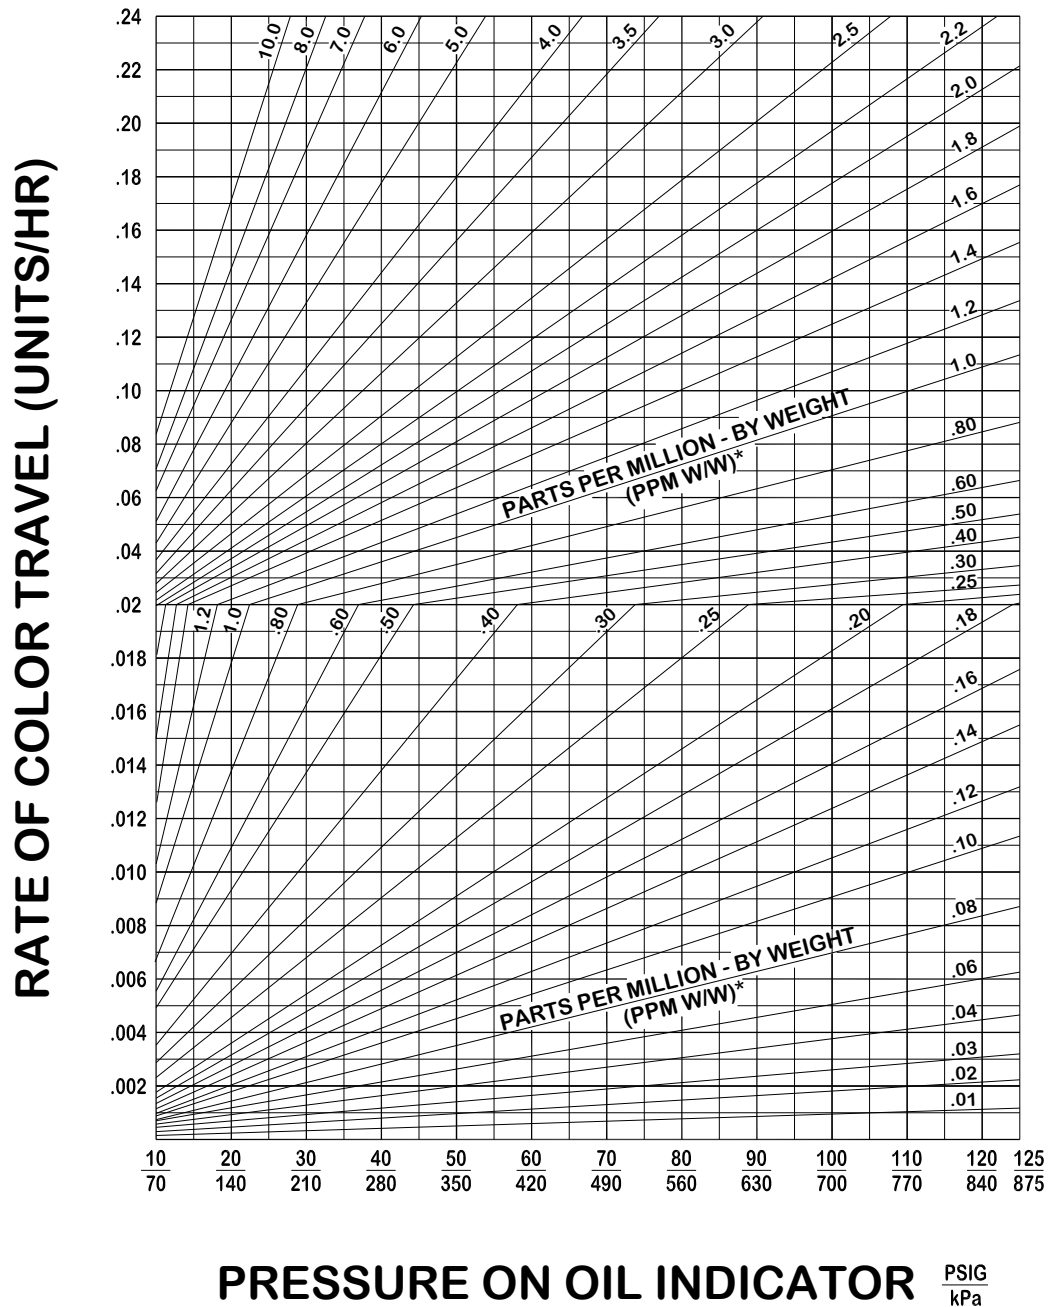

Fig. G-2. Conversion Chart for Oil Indication
When the needle valve of the oil indicator is open, filtered medical air will flow through the calibrated plastic tube. Any oil present in the air will then carry a red oil soluble dye up the tube, coloring a white material in the tube. The rate of color travel will be proportional to the amount of oil present. The parts per million (ppm) value of oil entrained in the air can be determined using the conversion chart below (Fig. G-2). After use the needle valve should be closed and left in line and the cartridge removed. At the time of the next test, a replacement cartridge will need to be installed on the needle valve fitting.
2. Using the chart in Fig G-2, find the Rate of Color travel on the left side of the chart and the pressure on the bottom. The point where Rate and Pressure intersect is the parts per million of oil concentration.